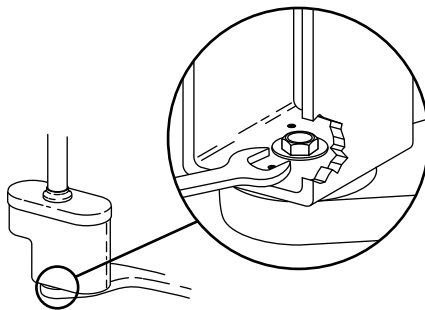

Figure 14. Rotating the Post Box
7. If the post box is mounted parallel to the chair, it will be necessary to rotate the post box on the chair mount adapter. Use a 15/16-inch wrench to loosen the bolt shown in Figure 14. Rotate the box and tighten the bolt.